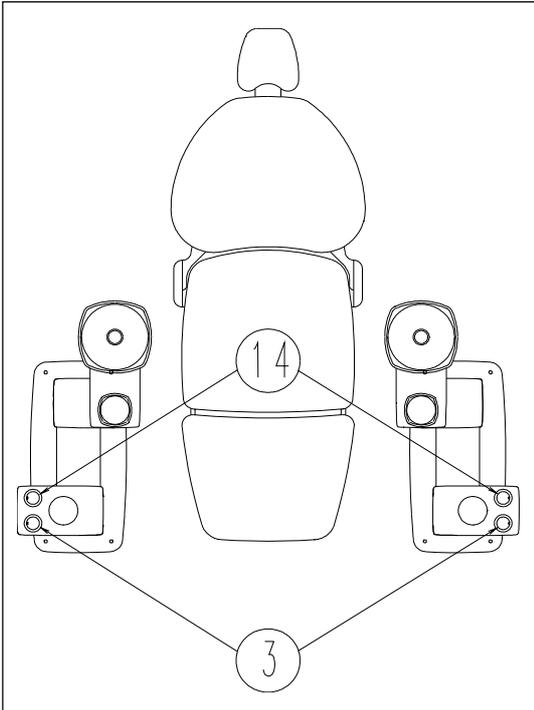

Figure 6. How to place the lamp (3) and the X-ray apparatus (14) on left and right-handed units.
- 1) Insert the adapter tube with the plastic washer in hole (3) on Fig. 6 and turn the tube clockwise until fastened.
- 1) Insert the adapter tube with plastic washer in hole (14) on Fig. 6 and turn the tube clockwise until fastened.